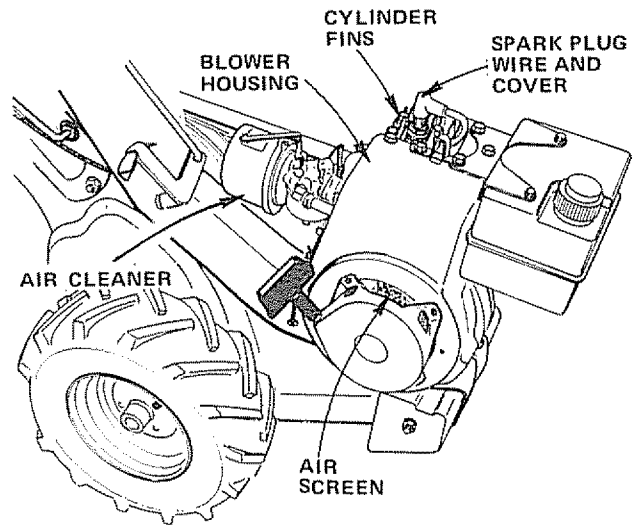

FIGURE 23
STOP THE ENGINE AND REMOVE THE SPARK PLUG WIRE AND COVER FROM SPARK PLUG (FIG. 23) BEFORE CLEANING OUT THE TINES BY HAND.
1. Clean Air Screen (Fig. 23) frequently using a stiff bristled brush.
2. Remove Blower Housing (Fig. 23) and clean as necessary.
3. Keep Cylinder Fins (Fig. 23) free of dirt and chaff.